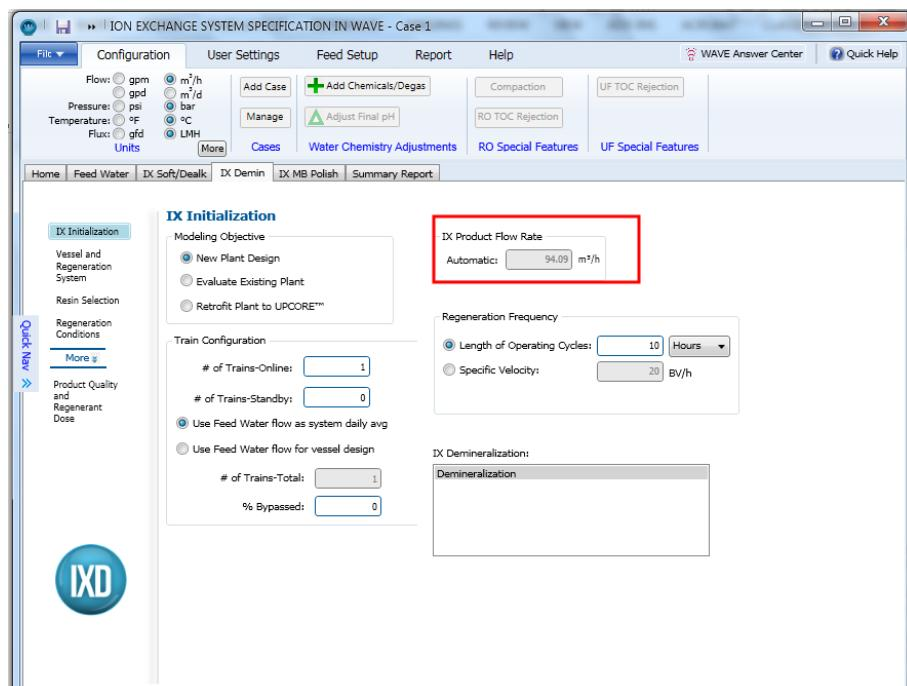

Figure 163. IX Initialization Window. IX Product Flow Rate
- The IX Product Flow Rate: If the Product Water is specified in the Home tab (see Figure 163).